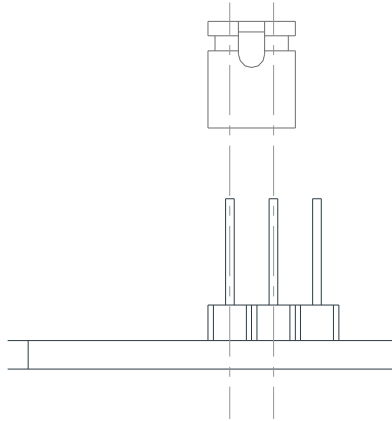

Figure 1
- 1) When customer doesn't need remote lamp, please insert terminal to N. (See Figure 1 below)